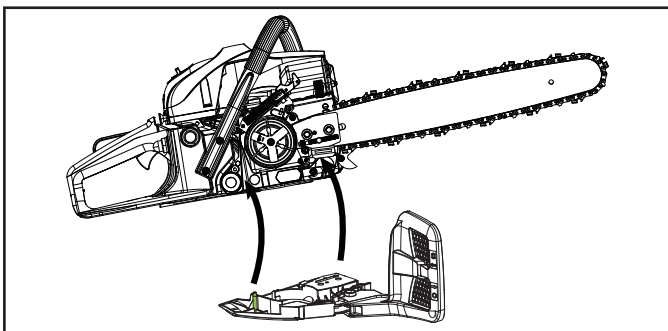

Figure 29
4. Remove housing, review for any potential damage, clean and set aside (Fig. 29).
4. Re-install the clutch cover, loosely install two 13mm nuts and turn (clockwise). Align brake onto clutch housing and two studs making sure the studs align with mating holes on clutch cover (Fig. 29).